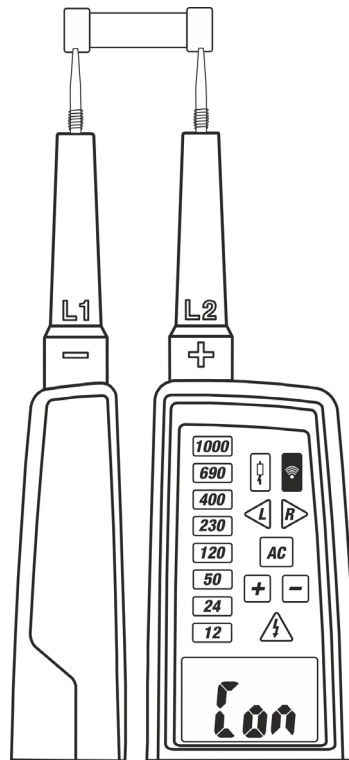

Fig. 9: Continuity test
2. Connect the **L1** and **L2** probes to the object under test (see Fig.9)